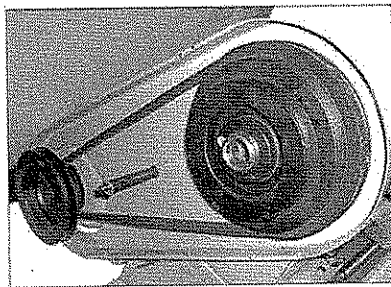
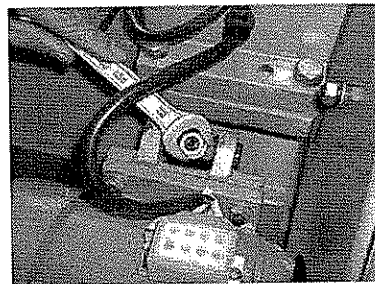

Fig. 17
Fig. 18
7.9.2. As shown in Fig. 17, open the cover of turning spindle. Loosen the motor fixing nut (as in Fig.18) to change the belt position. After changing the belt position on the pulley, retighten the fixing nut.